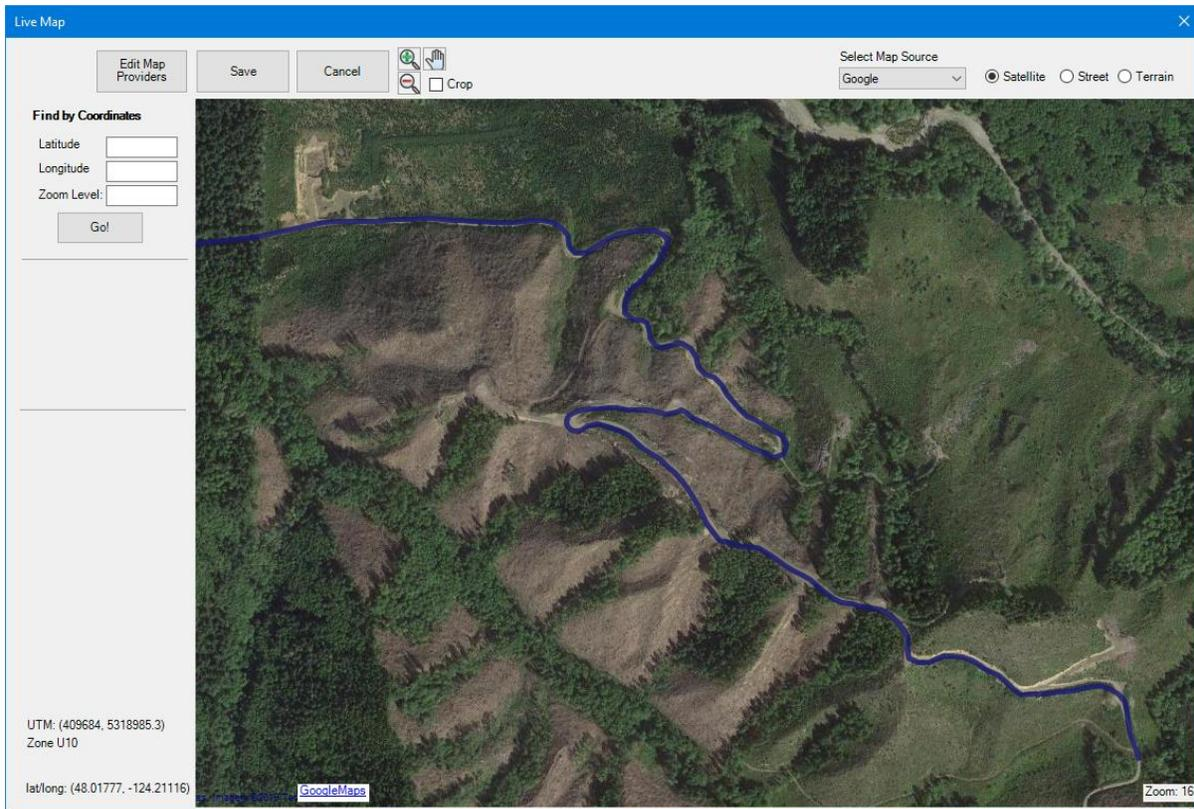

Figure 7-2: *Live Map* dialogue box.
7. Press the import  icon in the *Web Mapping* section of the *home* ribbon to open the *Live Map* dialogue box. The *Live Map Dialogue* box should appear similar to the one in Figure 7-2 below.
18. Press the import  icon in the *Web Mapping* section of the home ribbon to open the *Live Map* dialogue box. The *Live Map* dialogue box should appear similar to the one in Figure 7-2 above.